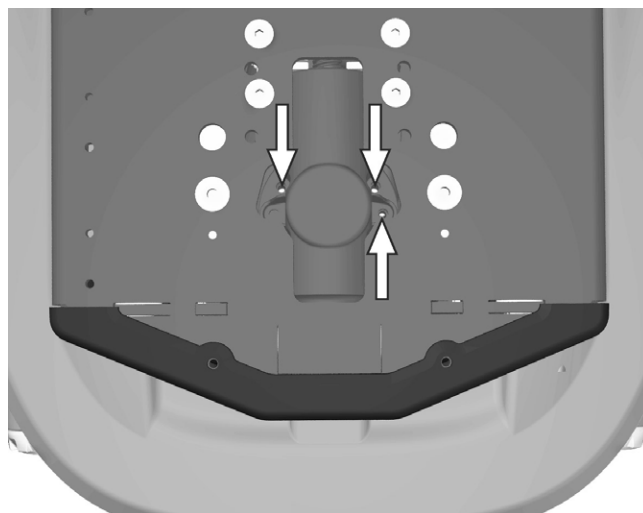

Figure 79. The electric motor of the seat tilt mechanism is assembled with three screws.
8. Take note of the current seat depth setting with consideration to subsequent assembling. The rails with which the seat depth is adjusted are marked with the settings for each potential position. The scale is marked with "millimetres" on one side and "inches" on the other. Pull the rear section of the seat forward to uncover the three screws holding the electric motor of the seat tilt mechanism. See fig. 79.
9. Remove the electric motor of the seat tilt mechanism, it is assembled with three screws. See fig. 79. **NOTE!** The actuator has to be calibrated after refitting!